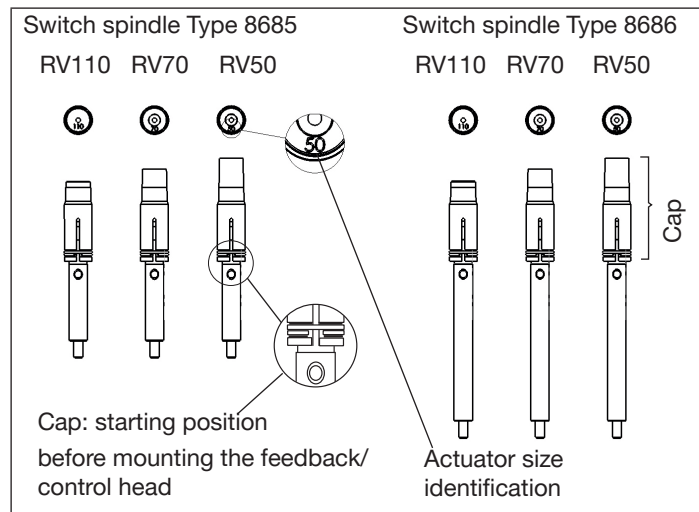

Fig. 7: Switch spindle identification
- ▶ Use only switch spindles that match the actuator size. The corresponding actuator size identification (RV50, RV70, RV110) for switch spindles are embossed on the front of the PVC cap (see "Fig. 7").
- Select the switch spindle that matches the actuator size (see "Fig. 7: Switch spindle identification").
- The caps must be in the starting position. If not, move the caps to the starting position (see “Fig. 7”).